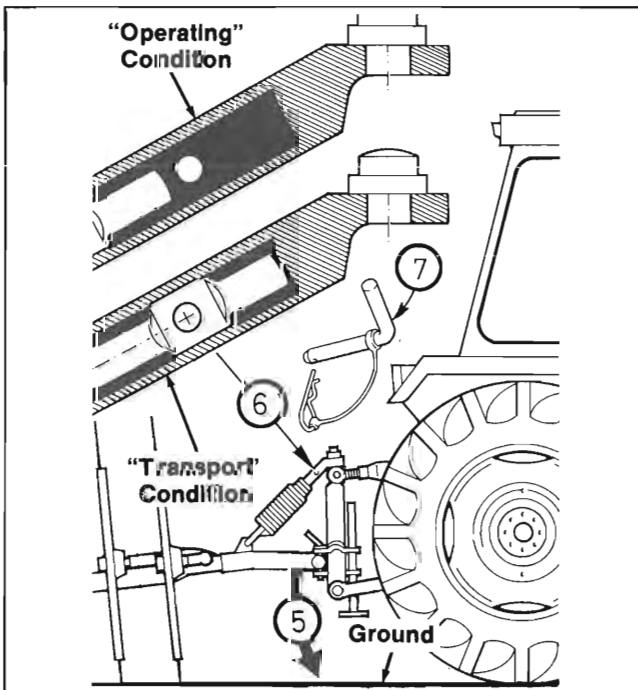
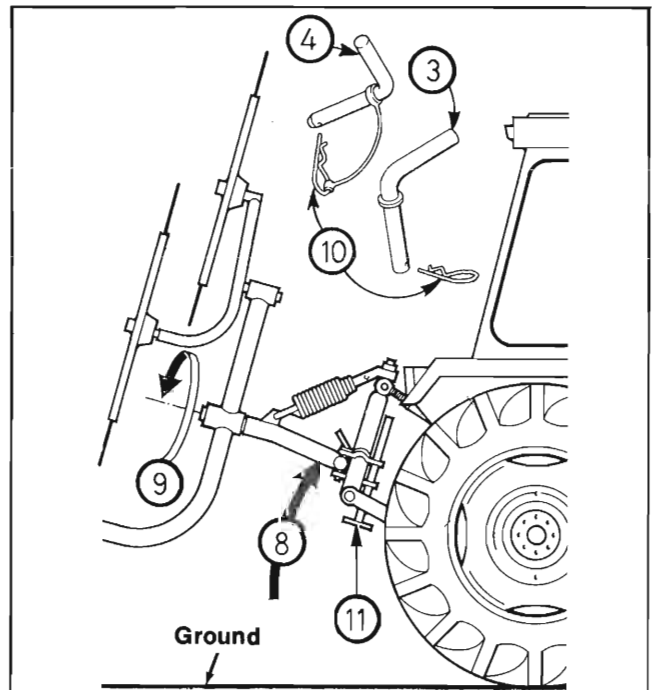

Fig. 18
Fig. 19
2. Lower the Rake (5 of Fig. 18) until the Locking Holes in the Telescope are in-line with each other (6 of Fig. 18).
3. Take the Pin out of the "Width Adjustment" storage hole (T of Fig. 18) and use it to secure the Telescope. Then, raise the Rake to its maximum position (8 of Fig. 19).
7. Turn the Main Frame into the vertical position (9 of Fig. 19) and resecure the Pin (3 of Fig. 19). Now, turn the lower Finger Wheel Carrier into the horizontal position and secure it with the Pin (4 of Fig. 19). Lock both Pins with their Spring Clips (10 of Fig. 19).